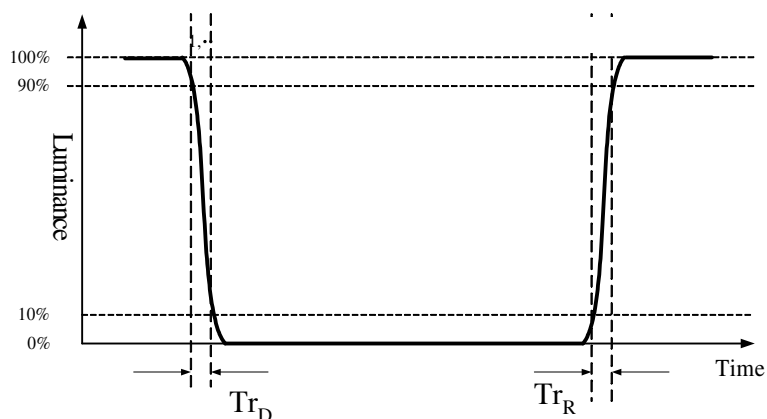

Fig.4-4 Response time
5. The response time is defined as the following figure and shall be measured by switching the input signal among 0%, 25%, 50%, 75%, 100% luminance. For additional information see Fig. 4-4.